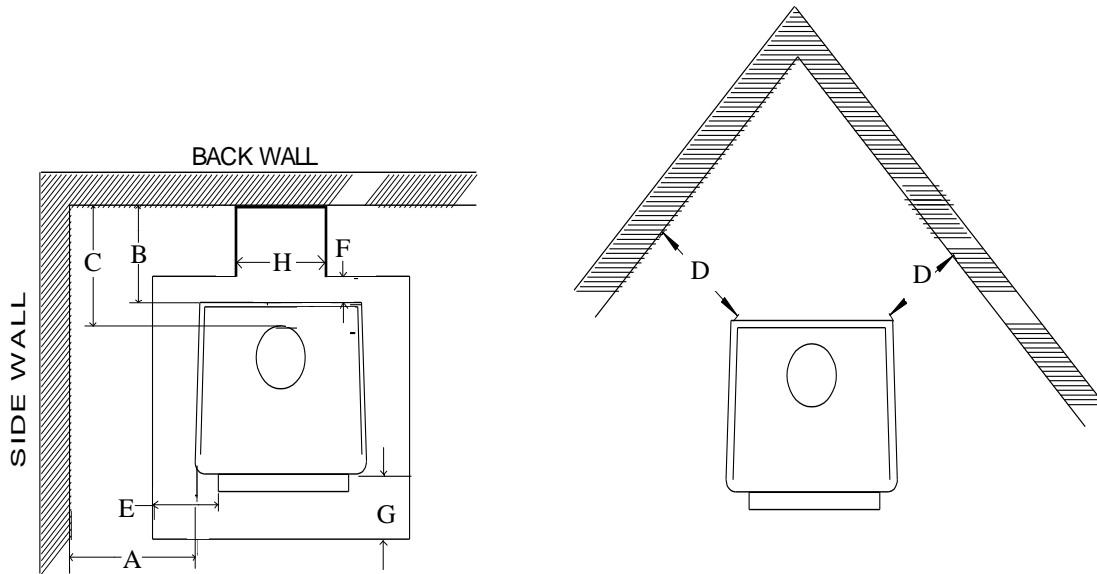

Figure 13
**NOTE:** Floor protector must be under horizontal pipe exit (See Figure 13. Page 19).
(See Figure 13, measurements F & H).